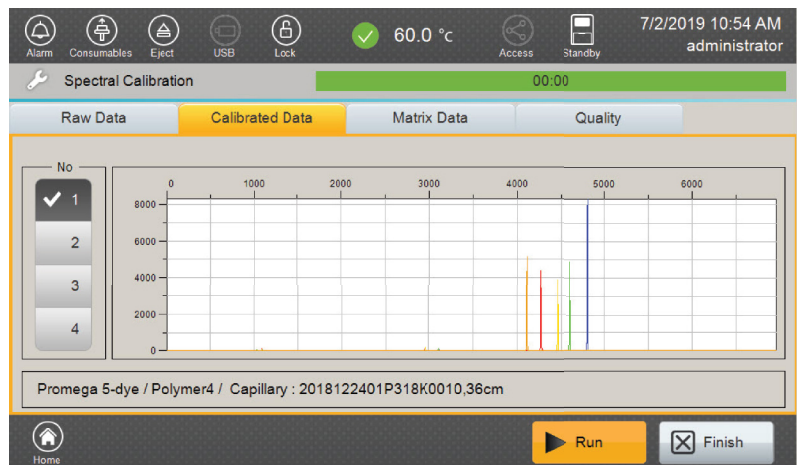

Figure 54. Spectral calibration 'Calibrated Data' tab screen.
1. Select the 'Calibrated Data' tab to review the calibrated data for each capillary (Figure 54).